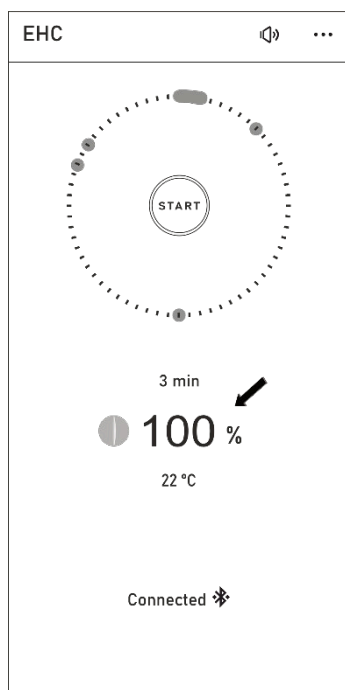

Fig. 4 – Air fully open
- When the optimal temperature is reached, the colour of LED light, so as the colour on the app screen will change from YELLOW to GREEN (but this is not a necessary condition). At higher temperatures the EHC starts to regulate the air control itself – Fig. 4 and 5. The flames are gradually extinguished and the logs burn out.
- The EHC first opens the air control all the way – figure 4 and the loaded logs are ignited.